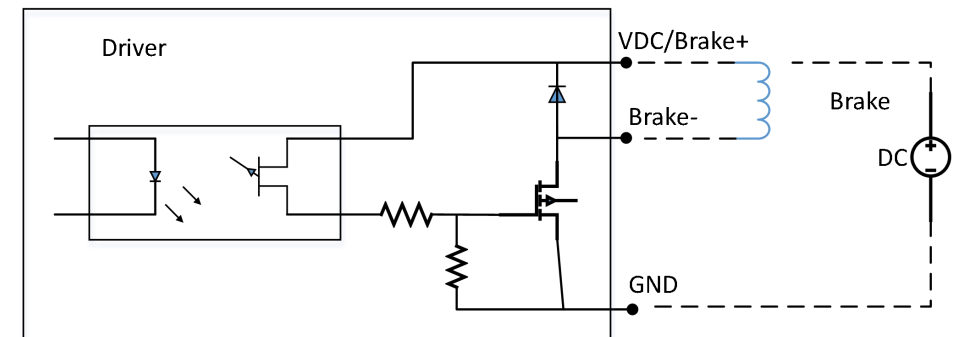

Fig.5 Output interface circuit
3.2.4. There are 2 brake circuits, the schematic diagram is shown in Figure 5.